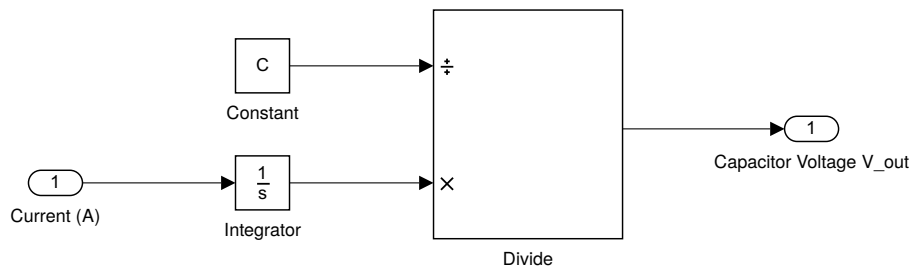

Figure 1.4: The capacitor subsystem.
**Capacitor:** In your main model, now create a capacitor-model as shown in Fig. 1.4. Again create a variable in the Matlab workspace by typing `C= 1e-6`.
**Task 1.1.** *Explain why Fig. 1.4 represents the model of a capacitor by writing down the equation it implements.*